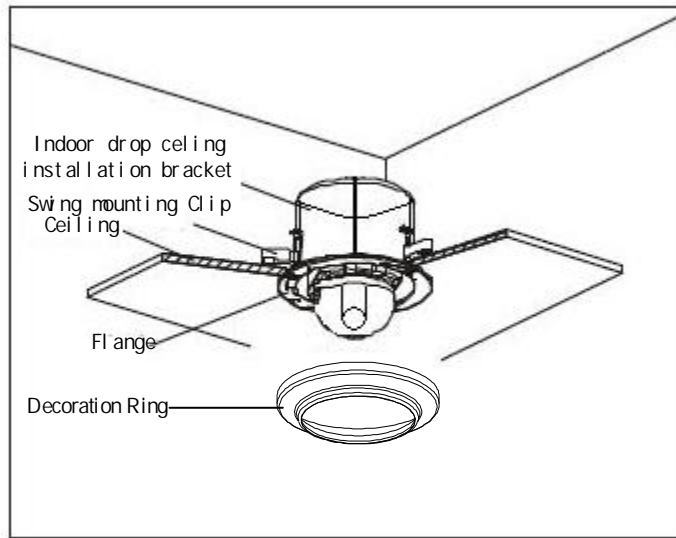

Figure 23
- g) Now turn the three mounting clip bolts so that they press against the ceiling. The ceiling is now clamped between the mounting clips and the flange, leaving the unit body secured in the ceiling void. See Figure 23 below.